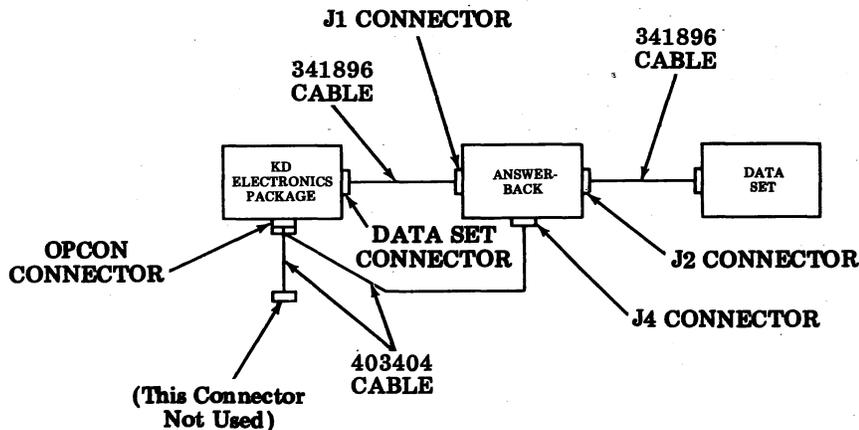

Fig. 29—KD Cable Arrangement
4.80 With the pedestal door open, and the answer-back resting on the right side of the pedestal door, connect the cables as follows (Fig. 29):